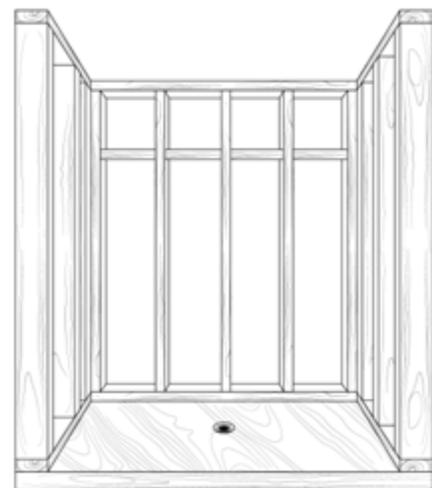

figure 2
- Do not install the shower pan on top of a finished floor.** (see figure 2)